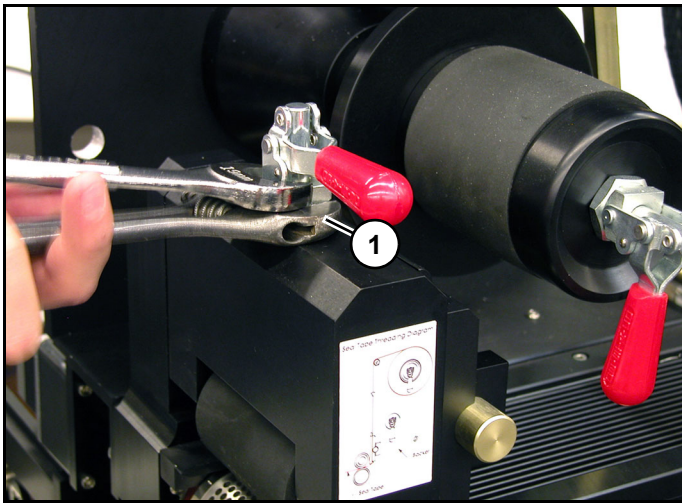

Figure 21
4. Using a 19 mm wrench and crescent wrench, tighten jam nut (1) (Figure 21).